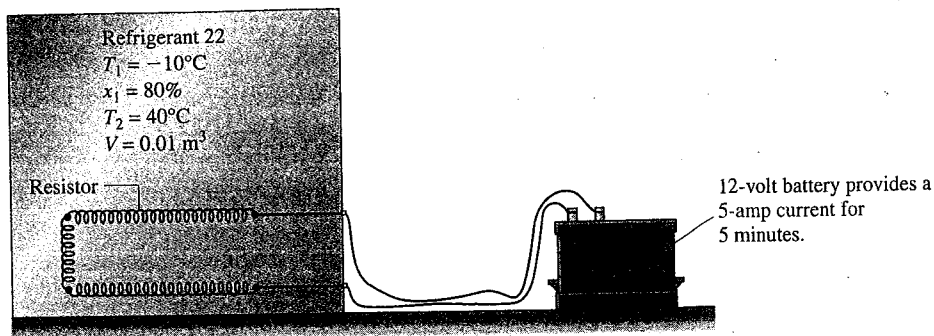

Fig. P3.63
- 3.63** As shown in Fig. P3.63, a closed, rigid tank fitted with a fine-wire electric resistor is filled with Refrigerant 22, initially at -10°C , a quality of 80% , and a volume of 0.01 m^3 . A 12-volt battery provides a 5-amp current to the resistor for 5 minutes. If the final temperature of the refrigerant is 40°C , determine the heat transfer, in kJ, from the refrigerant.